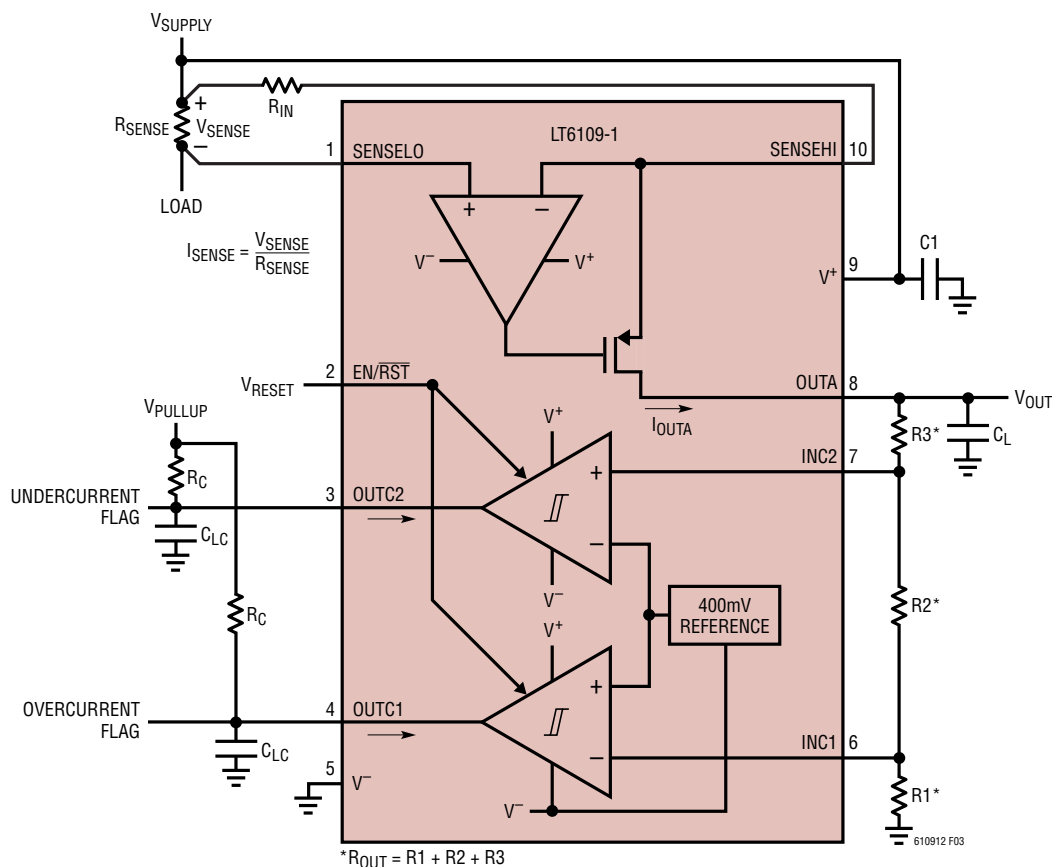

Figure 3. LT6109-1 Typical Connection
**ELECTRICAL CHARACTERISTICS** The ● denotes the specifications which apply over the full operating temperature range, otherwise specifications are at  $T_A = 25^\circ\text{C}$ .  $V^+ = 12\text{V}$ ,  $V_{\text{PULLUP}} = V^+$ ,  $V_{\text{EN/RST}} = 2.7\text{V}$ ,  $R_{\text{IN}} = 100\Omega$ ,  $R_{\text{OUT}} = R_1 + R_2 + R_3 = 10\text{k}$ , gain = 100,  $R_C = 25.5\text{k}$ ,  $C_L = C_{LC} = 2\text{pF}$ , unless otherwise noted. (See Figure 3)
**TYPICAL PERFORMANCE CHARACTERISTICS** Performance characteristics taken at  $T_A = 25^\circ\text{C}$ ,  $V^+ = 12\text{V}$ ,  $V_{\text{PULLUP}} = V^+$ ,  $V_{\text{EN/RST}} = 2.7\text{V}$ ,  $R_{\text{IN}} = 100\Omega$ ,  $R_{\text{OUT}} = R_1 + R_2 + R_3 = 10\text{k}$ , gain = 100,  $R_C = 25.5\text{k}$ ,  $C_L = C_{\text{LC}} = 2\text{pF}$ , unless otherwise noted. (See Figure 3)
**TYPICAL PERFORMANCE CHARACTERISTICS** Performance characteristics taken at  $T_A = 25^\circ\text{C}$ ,  $V^+ = 12\text{V}$ ,  $V_{\text{PULLUP}} = V^+$ ,  $V_{\text{EN/RST}} = 2.7\text{V}$ ,  $R_{\text{IN}} = 100\Omega$ ,  $R_{\text{OUT}} = R_1 + R_2 + R_3 = 10\text{k}$ , gain = 100,  $R_C = 25.5\text{k}$ ,  $C_L = C_{LC} = 2\text{pF}$ , unless otherwise noted. (See Figure 3)
**TYPICAL PERFORMANCE CHARACTERISTICS** Performance characteristics taken at  $T_A = 25^\circ\text{C}$ ,  $V^+ = 12\text{V}$ ,  $V_{\text{PULLUP}} = V^+$ ,  $V_{\text{EN/RST}} = 2.7\text{V}$ ,  $R_{\text{IN}} = 100\Omega$ ,  $R_{\text{OUT}} = R1 + R2 + R3 = 10\text{k}$ , gain = 100,  $R_C = 25.5\text{k}$ ,  $C_L = C_{LC} = 2\text{pF}$ , unless otherwise noted. (See Figure 3)
An internal sense amplifier loop forces SENSEHI to have the same potential as SENSELO as shown in Figure 3. Connecting an external resistor,  $R_{IN}$ , between SENSEHI and  $V_{SUPPLY}$  forces a potential,  $V_{SENSE}$ , across  $R_{IN}$ . A corresponding current,  $I_{OUTA}$ , equal to  $V_{SENSE}/R_{IN}$ , will flow through  $R_{IN}$ . The high impedance inputs of the sense amplifier do not load this current, so it will flow through an internal MOSFET to the output pin, OUTA.
where  $R_{OUT} = R_1 + R_2 + R_3$  as shown in Figure 3.
Kelvin connection of the SENSEHI and SENSELO inputs to the sense resistor should be used in all but the lowest power applications. Solder connections and PC board interconnections that carry high currents can cause significant error in measurement due to their relatively large resistances. One 10mm  $\times$  10mm square trace of 1oz copper is approximately 0.5m $\Omega$ . A 1mV error can be caused by as little as 2A flowing through this small interconnect. This will cause a 1% error for a full-scale  $V_{SENSE}$  of 100mV. A 10A load current in the same interconnect will cause a 5% error for the same 100mV signal. By isolating the sense traces from the high current paths, this error can be reduced by orders of magnitude. A sense resistor with integrated Kelvin sense terminals will give the best results. Figure 3 illustrates the recommended method for connecting the SENSEHI and SENSELO pins to the sense resistor.